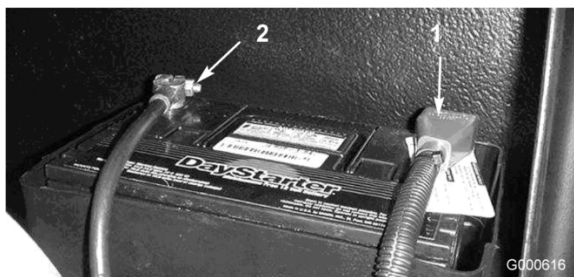

Figure 39
5. Install the positive cable (red) to the positive (+) terminal and the negative cable (black) to the negative (-) terminal of the battery (Figure 39). Secure cables to posts with capscrews and nuts. Make sure that the positive (+) terminal is all of the way onto the post and the cable is positioned snug to the battery. The cable must not contact the battery cover. Slide the rubber boot over the positive terminal to prevent a possible short from occurring.